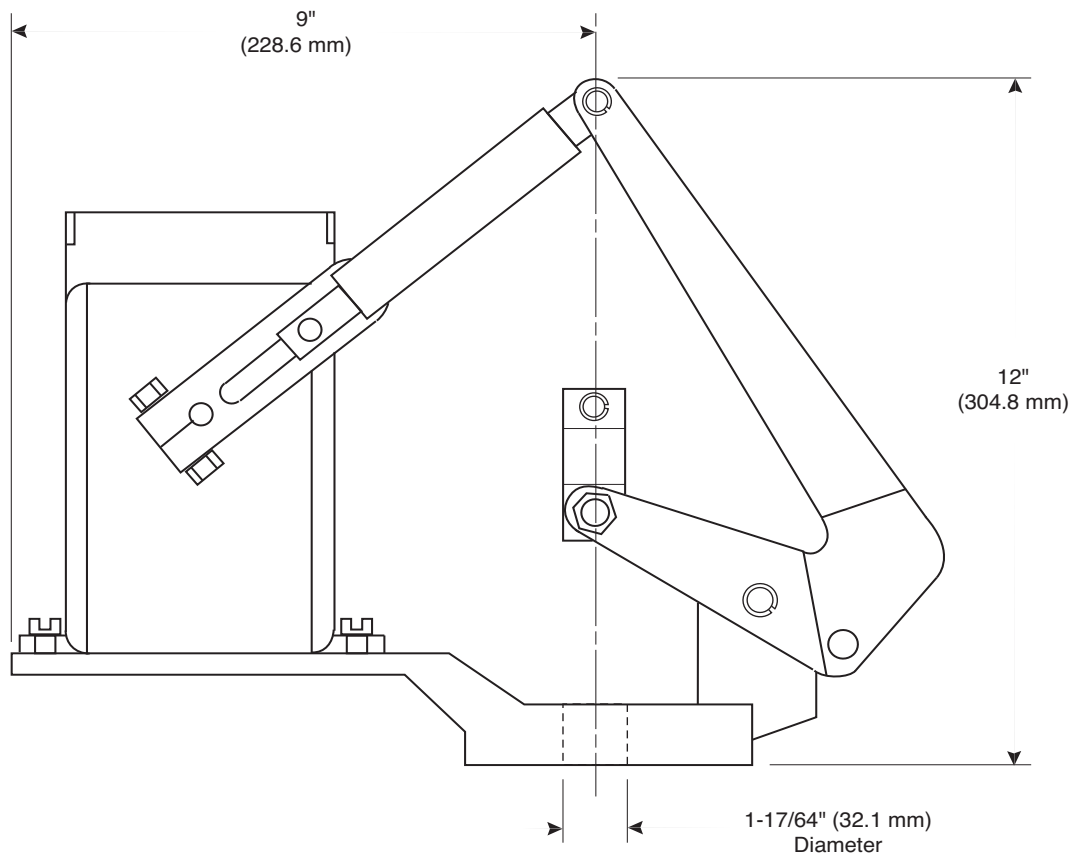

Figure-3 Mounting Dimensions of Valve Linkage Assembly.
- Refer to Figure-3 for mounting dimensions of the linkage assembly.